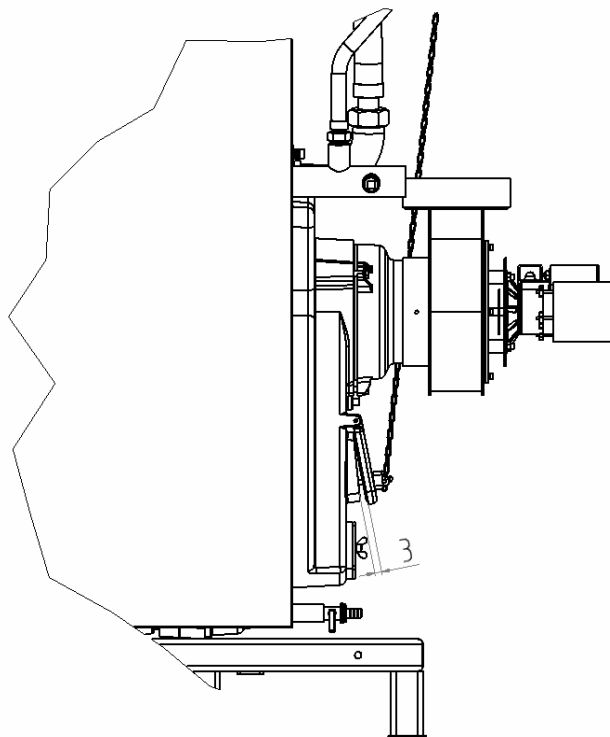

Fig. No. 24 The throttle valve held ajar at 3 mm by means of setscrew
2. Set the chain of draught controller to the required output, which is at the throttle valve approx. 3 – 50 mm. With a lower air volume the boiler output is reduced. **Due to the boiler tarring make sure that the throttle valve is never fully closed (it always must be open up to 3 mm by means of the setscrew of the throttle valve (Fig. no. 24).**